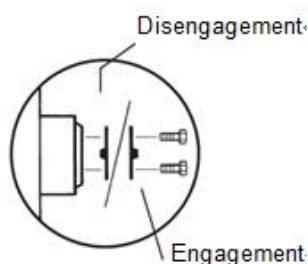

Figure 10-1 Brake release
- 2) Turn over all driving wheel hub separating covers to release wheel brakes, as shown in Figure 10-1.